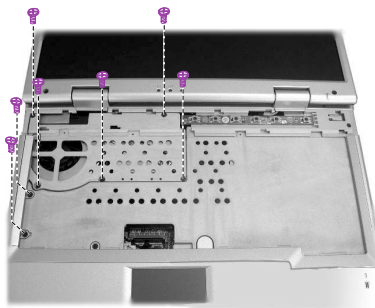

Figure 2-6 Remove the cover
2. Remove seven screws fastening the heatsink cover. (Figure 2-6)